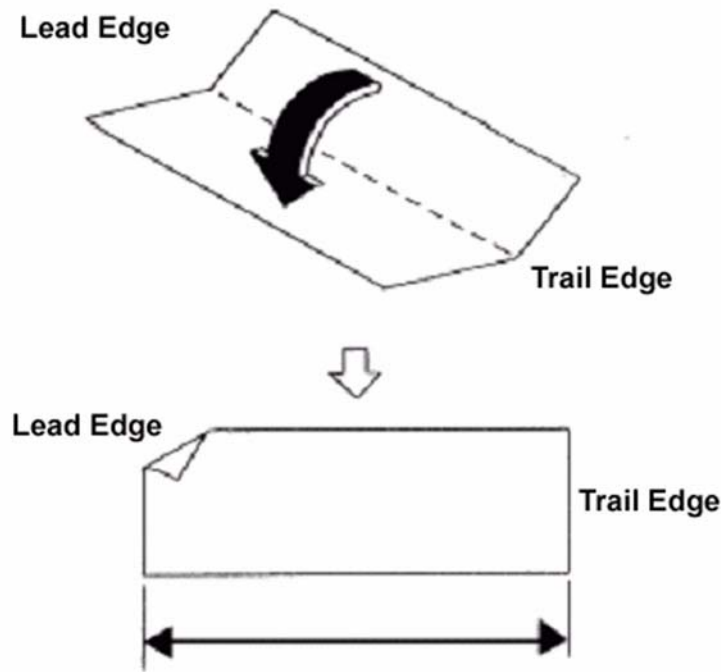

Figure 1 Preparing the prints to be measured
11. Fold the second and third 12"/A4 x 1219mm prints at the center (see Figure 1).